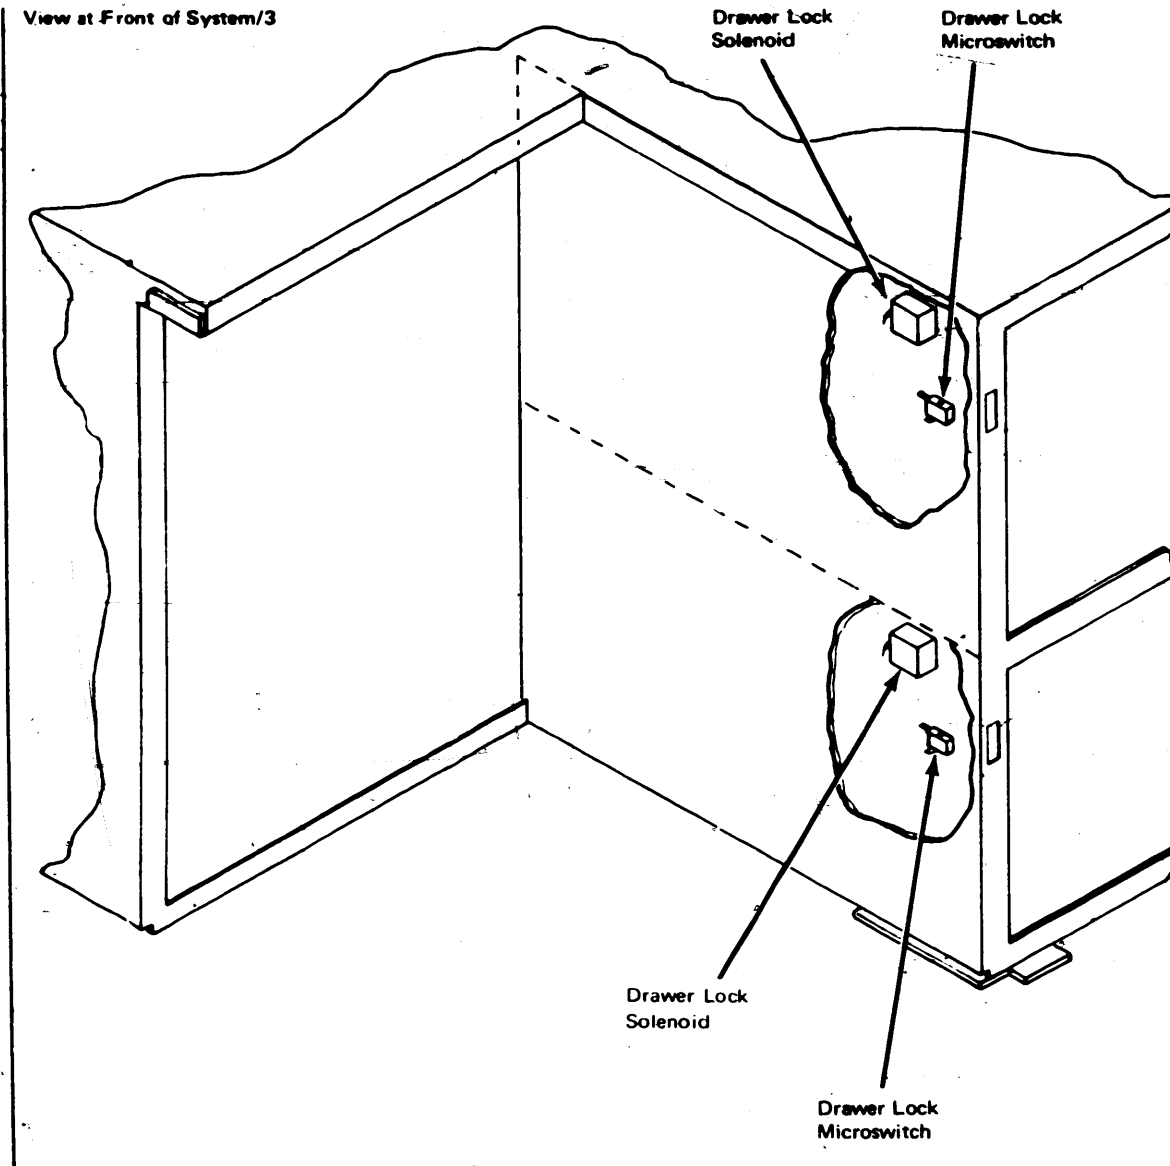
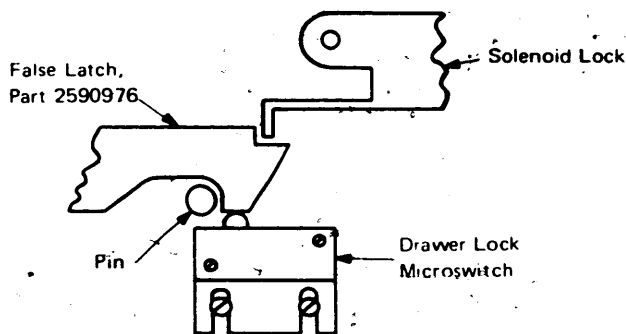

Figure C-1. Disk Enclosure Locations for IBM System/3 [07572A]
Figure C-2. False Latch Setup [07570A]
Figure C-1 shows the location, within the disk enclosure of IBM System/3, of drawer lock components.
2. To power up the 5444 with the drawer open, activate drawer lock microswitch (see Figure C-1) by inserting the false latch, part 2590976 (Figure C-2).